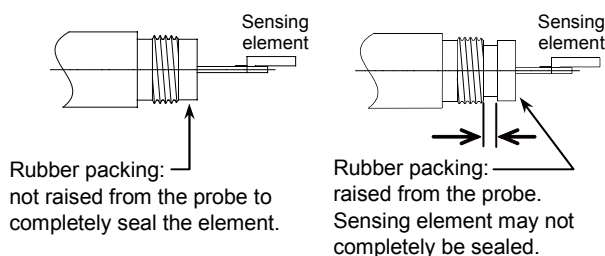

Figure 23. Rubber packing position
2) Before attaching the new filter, check that the rubber packing sealing the sensing element is not raised from the probe, as shown in Fig. 23.